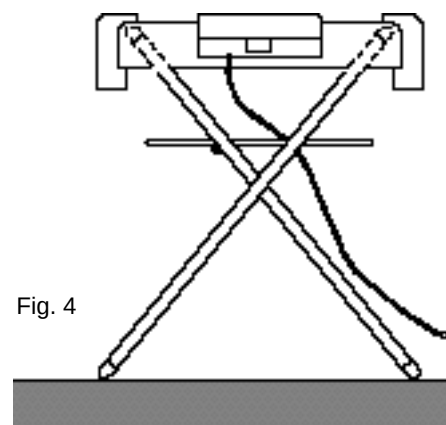

Fig. 4
- 5) Place the steak grill on the stand as shown in fig. 4.